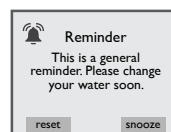

Figure 15.0f
25. Water Refresh Reminder: This message will appear when the "Water Refresh" timer has expired (Figure 15.0f). The water needs to be drained and refilled with fresh water.